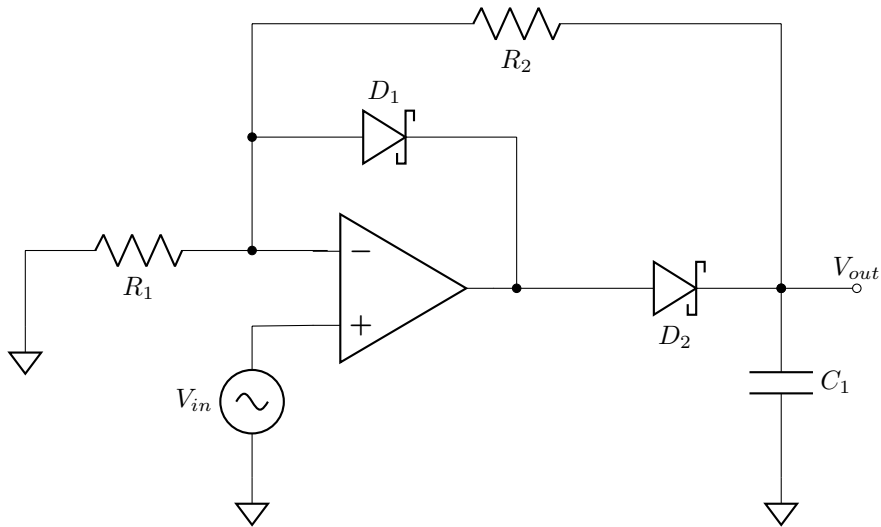

Figure 3: Precision peak detector circuit with op-amp
A peak detector circuit is based on a rectifier, a simple rectifier circuit could act as a peak detector but it has limitations in both precision and frequency response. Circuit based on op-amps have better performance, an example is shown in figure 3.
- A peak detector circuit, the one showed in fig. 3 is an example (you can use any other configuration)
- Suggested components for circuit in fig. 3 are: